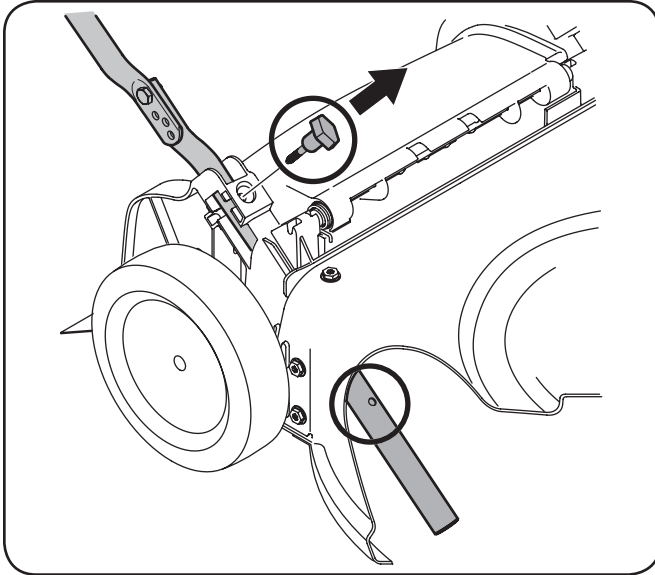
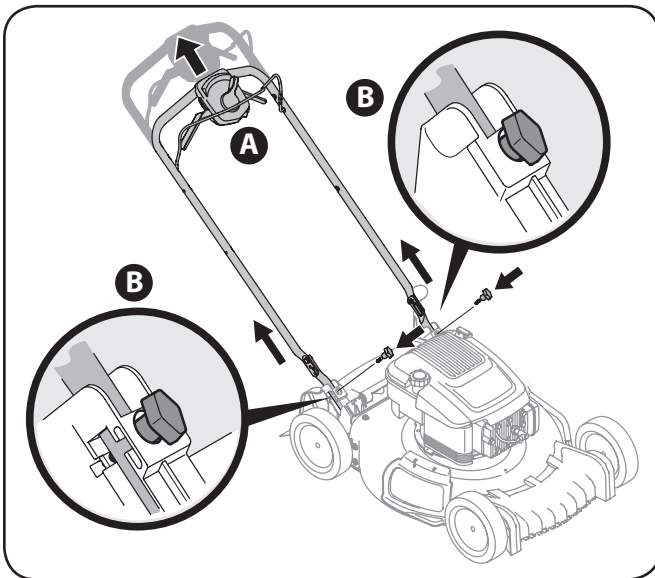

Figure 3-3
Figure 3-4
- Remove the T-bolts from the handle brackets as shown in Figure 3-3.
- Pull upward on the handle approximately 8 inches until holes in lower handle (shown in Figure 3-3 cutaway) line up with holes in handle bracket. See Figure 3-4.
- Insert the T-bolts removed earlier through the handle brackets and lower handle and tighten securely to secure the handle in place. See Figure 3-4.